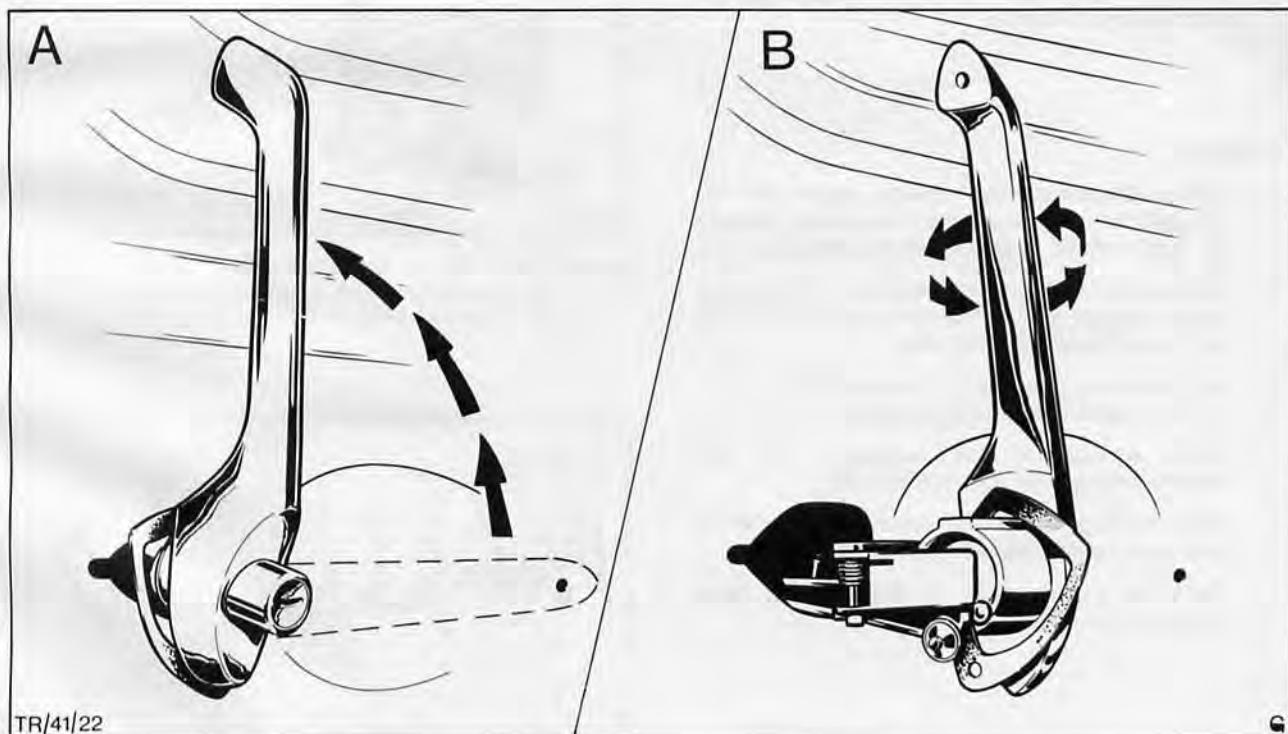

Fig. 16. Removing door exterior handle
4. Unhook rods from lock. Turn handle until front end of handle is vertical, further turn handle towards front of vehicle, at same time guide handle rods through door cut out, Fig. 16.